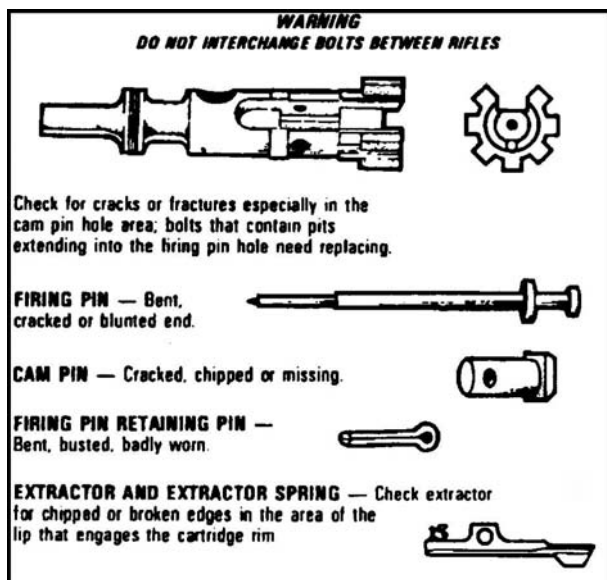

Figure 071-311-2025-23. Inspecting the bolt assembly
4. Inspect disassembled rifle bolt assembly (figure 071-311-2025-23).